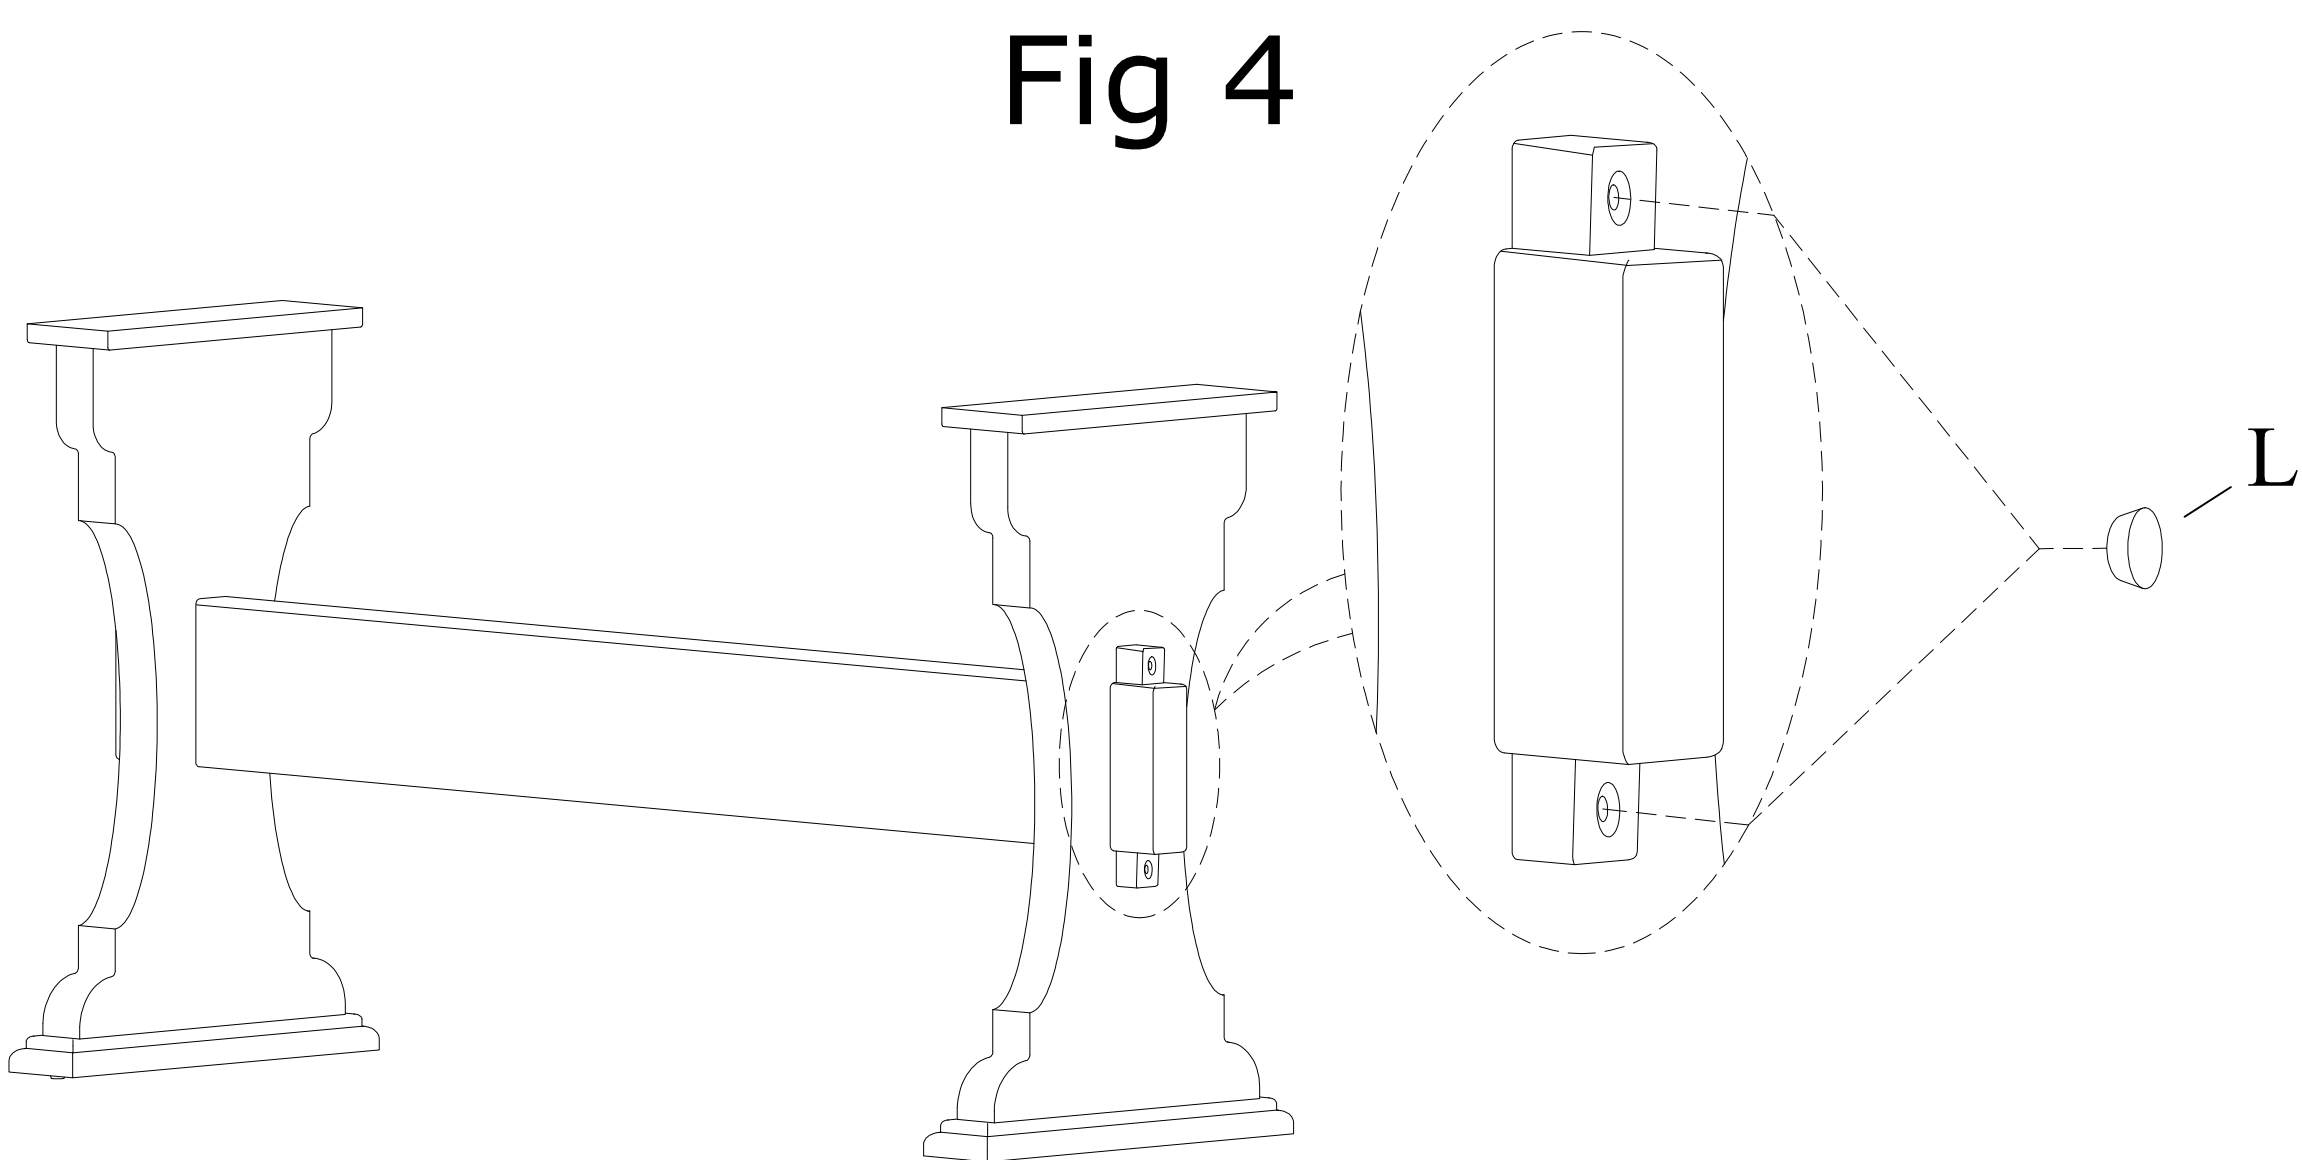

Fig 5
5. Attach the leg base to the table top using bolts (A), lock washers (C) and flat washers (D) and tighten with the Allen wrench (E) as shown Fig 5.